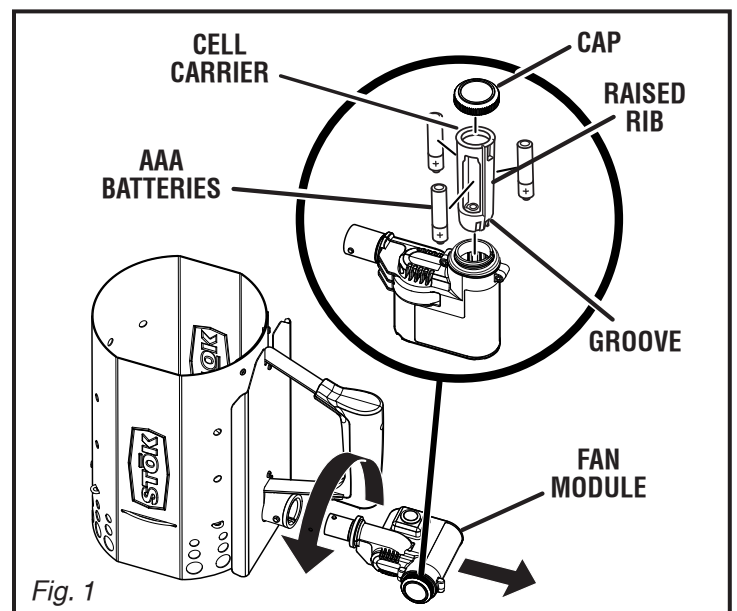

Fig. 1
See Figure 1.
- Place three AAA batteries in the slots in the cell carrier as shown in figure 1.